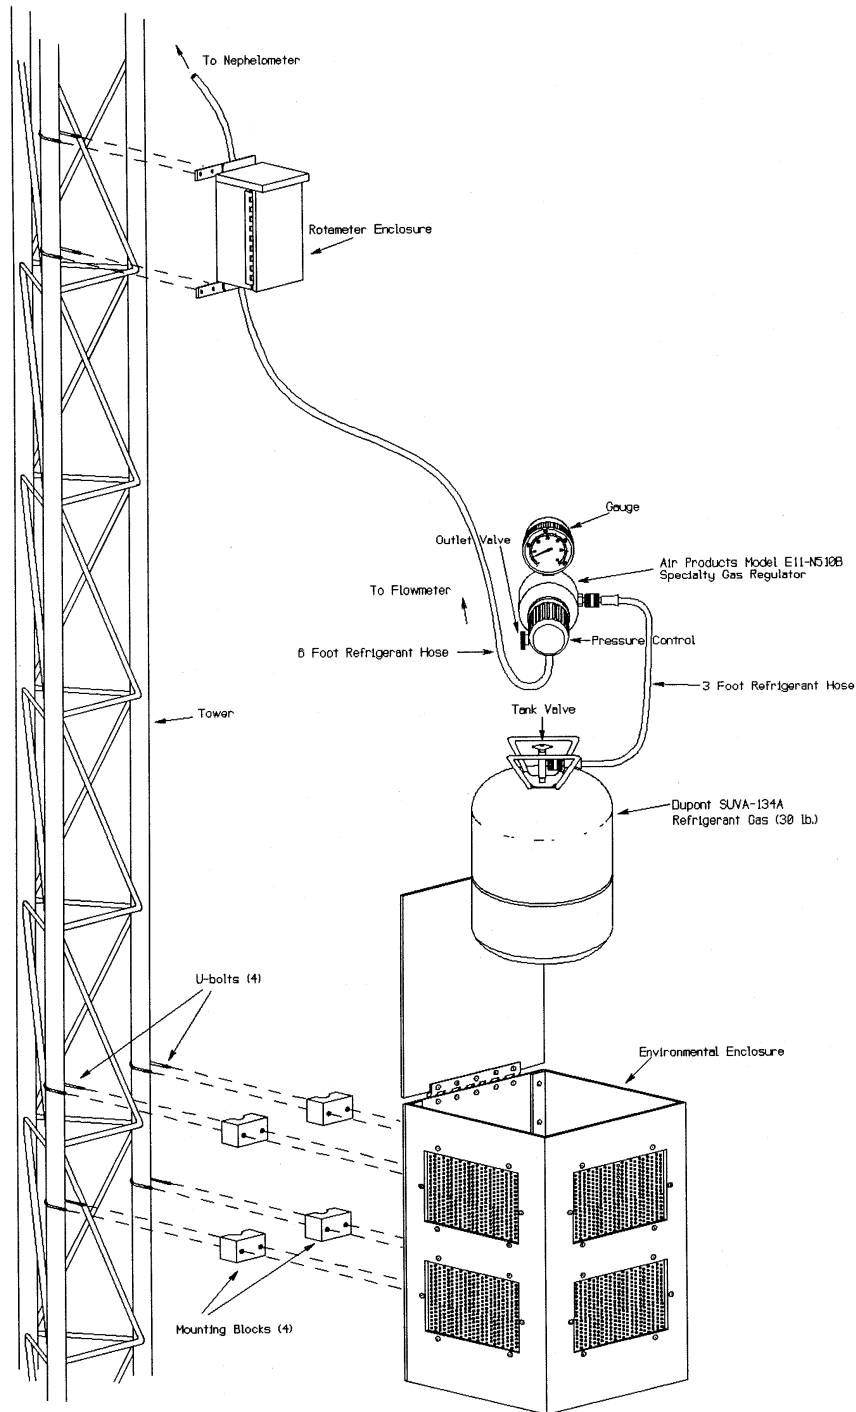

Figure 4-8. Span Gas Calibration System.
The span gas calibration system is used by the site operator to perform scheduled span and zero calibration checks of the nephelometer. The system, illustrated in Figure 4-8, includes the following components:
Attach the rotameter enclosure to the tower at a height of approximately five (5) feet (comfortable viewing level) using the supplied U-bolts (refer to Figure 4-8).